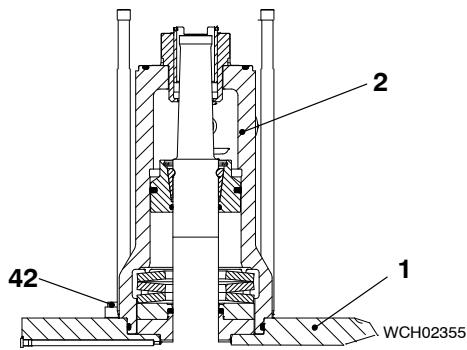
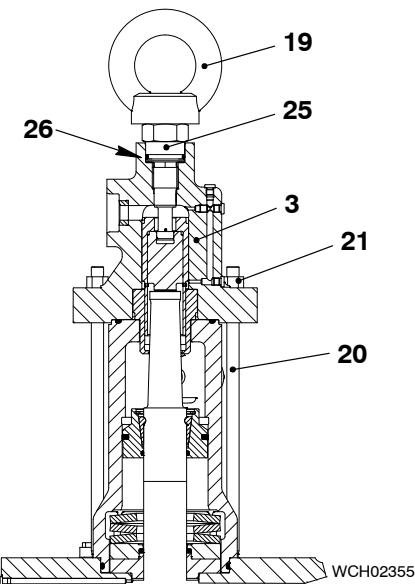

Fig. 5
Fig. 6
- 7) Attach two eye bolts M8 to the housing (2, Fig. 5).
- 8) Lift, then lower the bottom housing 2 on to the valve cage (1).
- 9) Install the six cap screws (42).
- 10) Attach the crane hook to the eye bolt (19 Fig. 6).
- 11) Lift, then carefully lower the top housing (3) on to the housing (2).
- 12) Remove the lifting tool from the top housing (3) and the crane.
- 13) Put oil on to the threads of the elastic studs (20).
- 14) Put the six nuts (21) on to the elastic studs (20).
- 15) Torque the oiled nuts (21) equally to 150 Nm in a diagonal sequence.
Install shims (26, Fig. 6) with a total thickness T in relation to the measured Height H given in the table that follows: